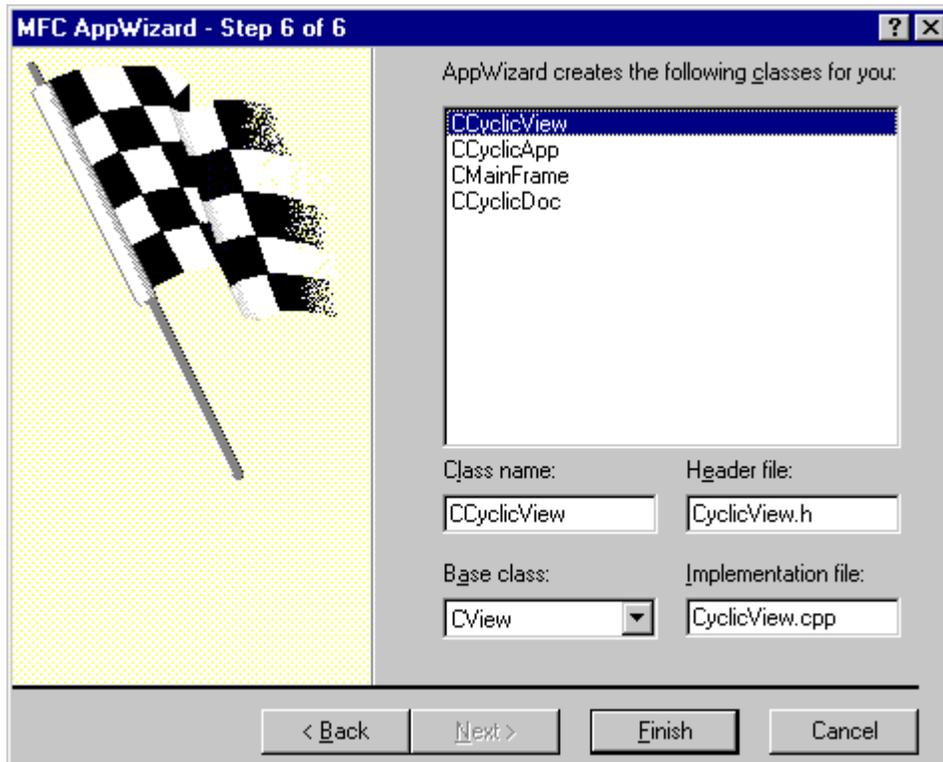

Figure 11 MFC AppWizard – Step 6
9. The next dialog you will see is the MFC AppWizard – Step 6 of 6 dialog. When this dialog appears it will look like the one in Figure 11.